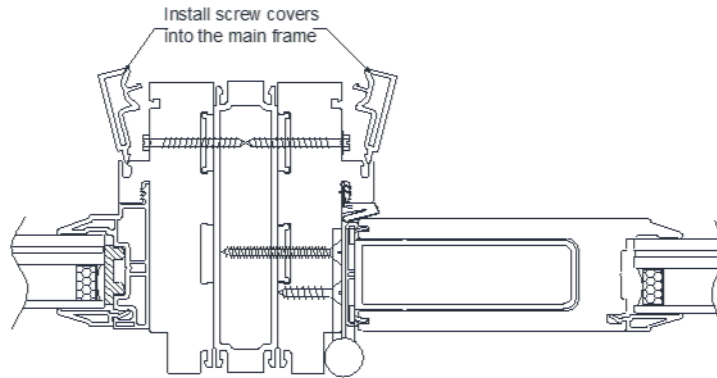

Figure 16
30. Locate and install screw covers (Item 13) by snapping the cover into the groove in the door frame (Figure 16). Then use a rubber mallet to strike the cover at an angle to secure the cover.